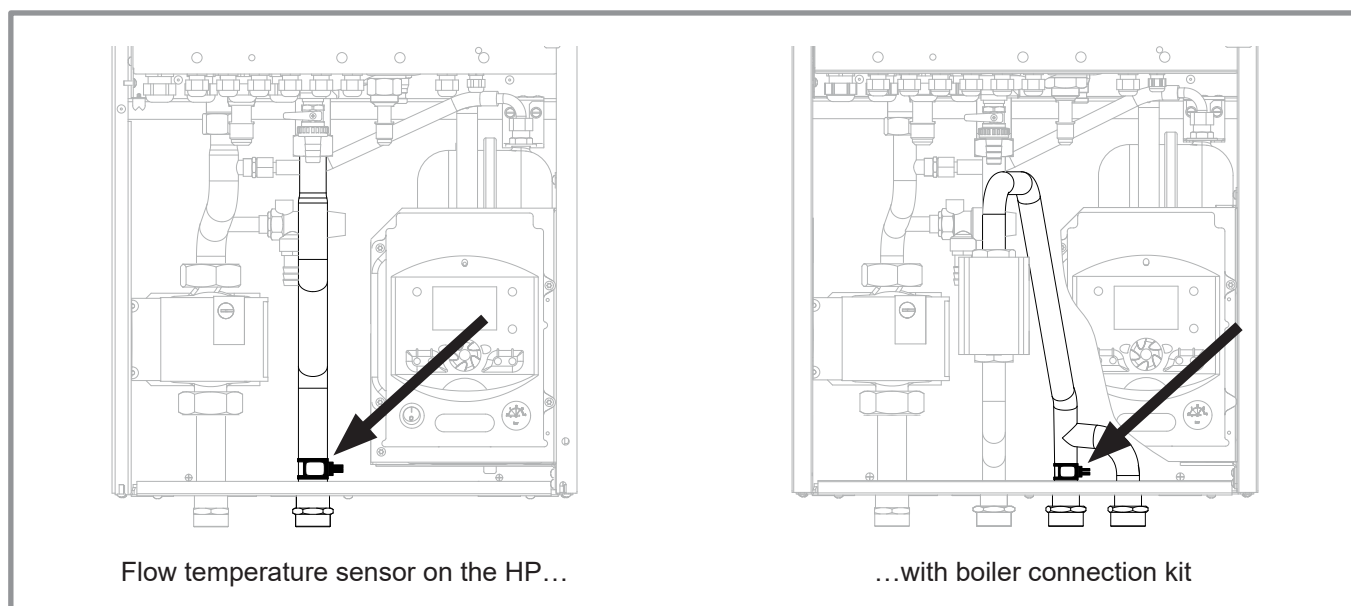

figure 6 - Position of the flow temperature sensor
- **1** - Remove the "pipe support" of the HP [(B) only].
- Remove cable grommet [(A) only].
- **Fix the flow sensor** on the facility's flow pipe (see figure 6).
- **5** - Fitting the "pipe support" [(B) only].
- Reassemble cable grommet [(A) only].